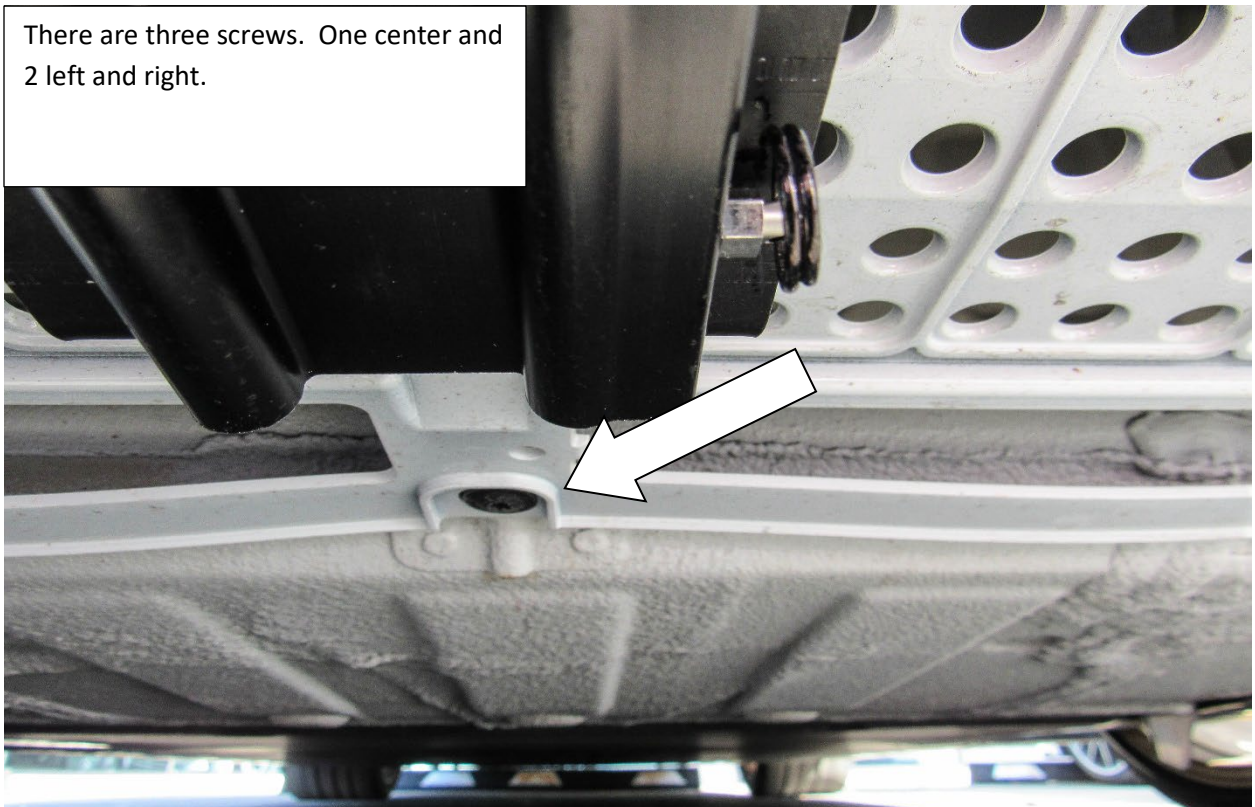
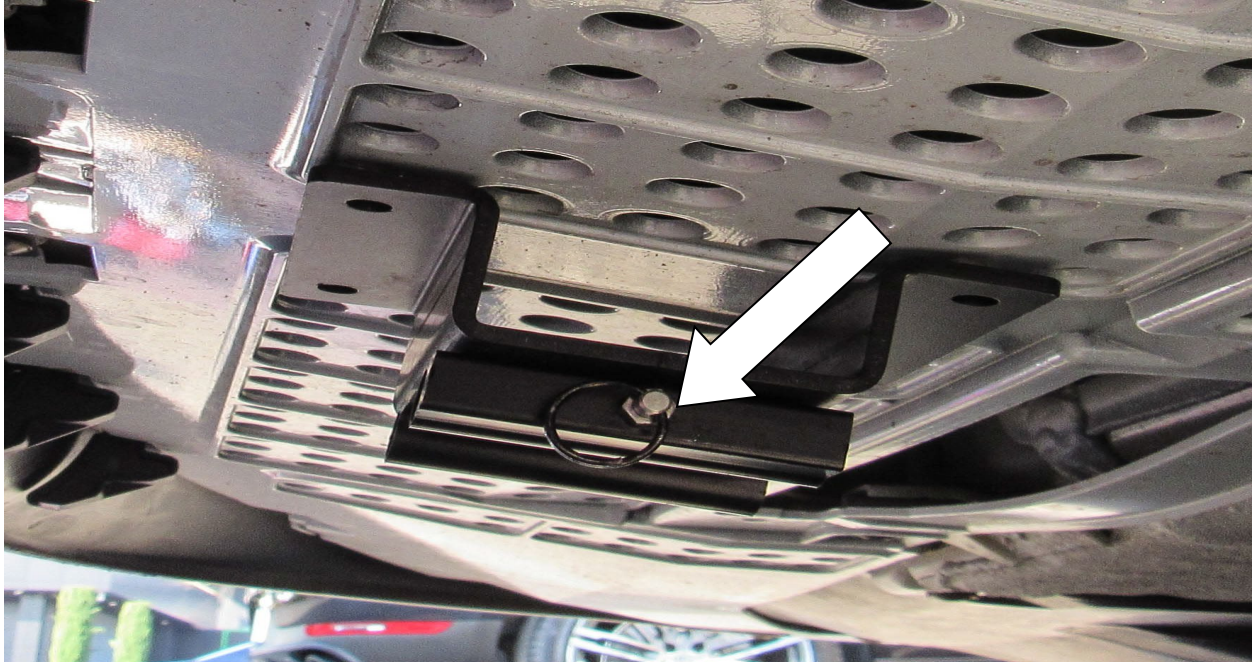

Fig 5
Fig6
Step 7: Slide the license plate rods into the two tubes located on the base plate. Slide the rods into the tubes until the rods hit the pull pin. Simply pull the ring on the pull pin and advance the rods. Release ring and continue to advance rods until the pull pin locks into place. **Note: The rods and spring-loaded pull pin are required to be sprayed periodically with WD-40 or any other silicone type spray lube. Failure to do so could result in either the failure of the pull pin or the rods becoming difficult to remove or reinsert. Note: In harsh environments, such as areas where roads are either salted or sanded in the winter, spraying of the rods and pull pin should be performed on a regular basis. Failure to provide this maintenance may void your warranty.** See figure 5. On some occasions the license plate may require a little adjustment to level. Simply pull pin and slide plate out approximately two inches, grab frame at arrows (See figure 6) and rotate. If the plate is high on left or right side, rotate high side down slightly and release. Verify alignment and repeat as necessary. Once leveled plate will remain level.